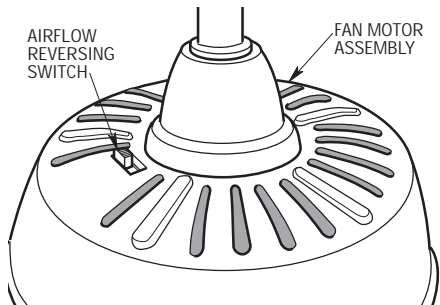

Figure 24
- 6. If airflow is desired in the opposite direction, turn the fan off and wait for the blades to stop turning. Then slide the reversing switch, located on top of the fan motor assembly, to the opposite position (Figure 24) and turn the fan on again. The blades will turn in the opposite direction and reverse the airflow.